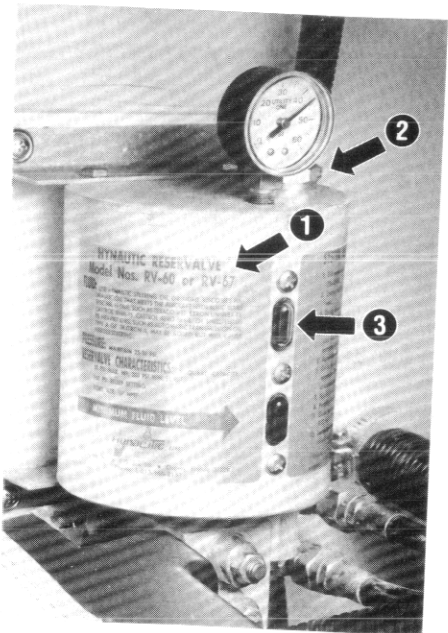

Figure 19
NOTE: For the correct type of fluid read the instructions on the cannister (1). See figure 19.
1. The pressure release valve is above the fill nut (2). See figure 19. Press the button to release the pressure.
3. Pour the hydraulic fluid through the fill hole until the fluid reaches the halfway mark in the top sight gauge (3). See figure 19.